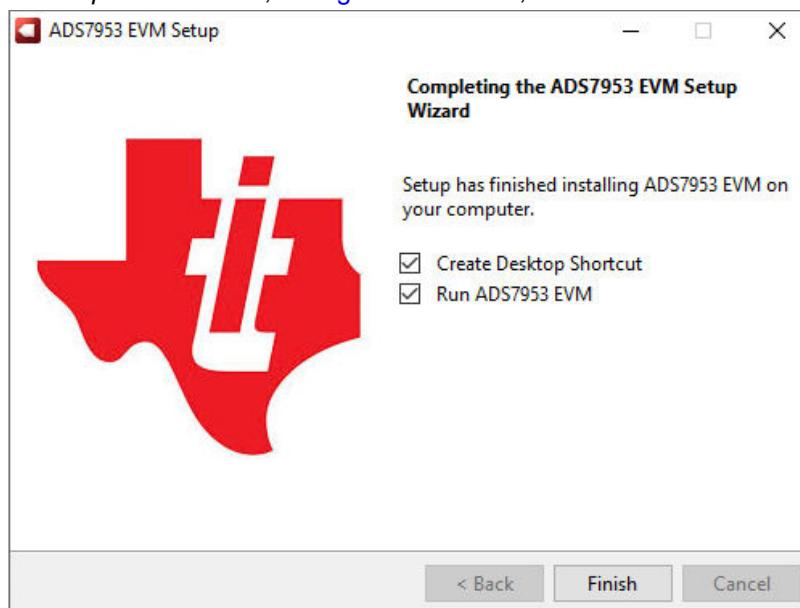

Figure 5-4. Software Installation Final Step
4. Check the *Create Desktop Shortcut* box, as Figure 5-4 shows, after these installations.